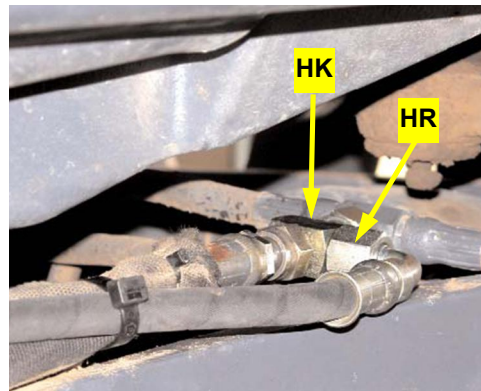

Figure 5a: Installed right steering output hose
- a. Connect the larger o-ring elbow fitting of the steering output hoses **HR** onto the branches of the run-tee fittings **HK** installed at step 4 (Figure 5a - right side only shown).